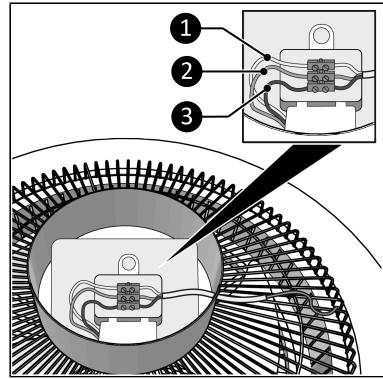

Figure 23.
- Brown wire: live (Figure 23, pos. 3);
- Yellow green wire: earth (Figure 23, pos. 2);
- Blue wire: neutral (Figure 23, pos. 1).